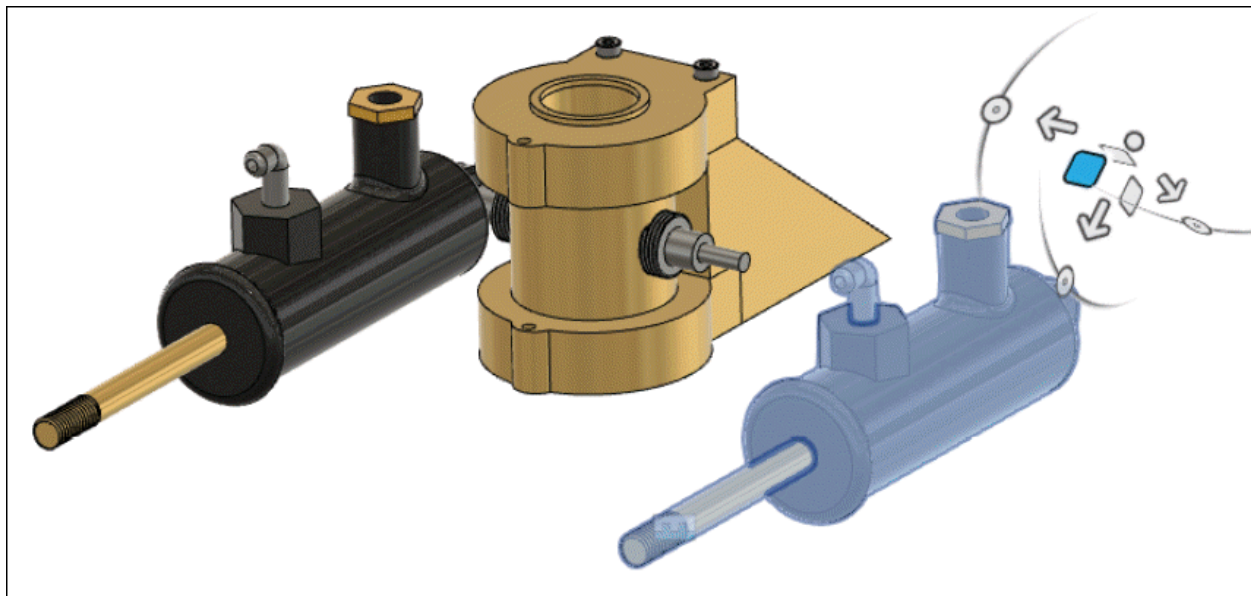

Figure-98. Components copied
- Drag the copied components with the help of drag handle. The copied components will be displayed; refer to Figure-98.